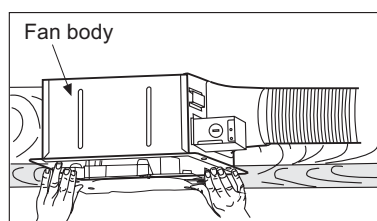

Fig.12-3
7. Insert the blower into the fan body. (Fig.12-3)